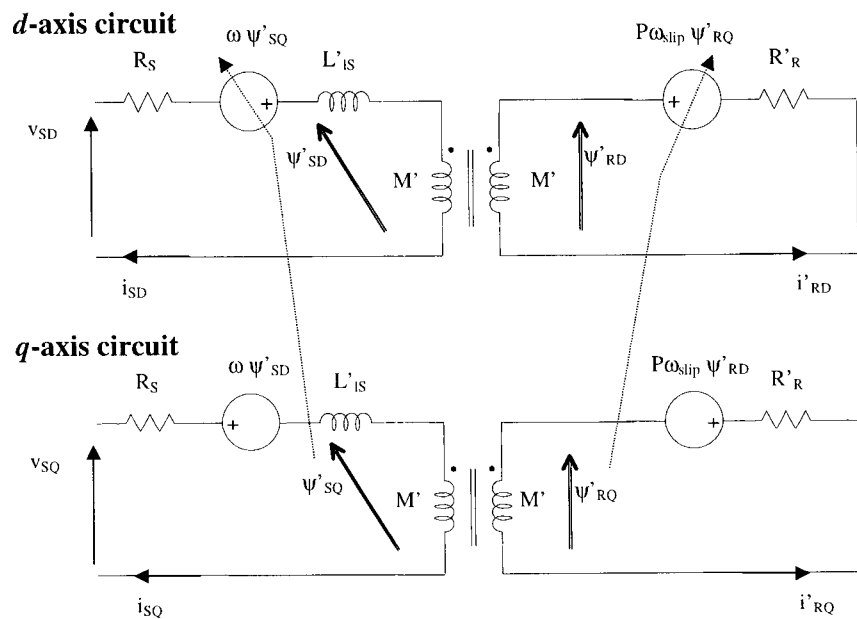

Figure 3.1
- (iii) Figure 3.1 shows an equivalent circuit of the referred equation using flux linkages such as $\psi'_{RD} = M' (i_{SD} + i'_{RD})$. Re-draw the equivalent circuit of Figure 3.1 for a case where orientation at $\psi'_{RQ} = 0$ has been achieved and the stator is supplied from a current source not a voltage source. Explain the significance of orienting the model such that $\psi'_{RQ} = 0$ in terms of the torque equation, the equivalent circuit, and the dynamics governing the relationships between stator current, flux and torque. [10]